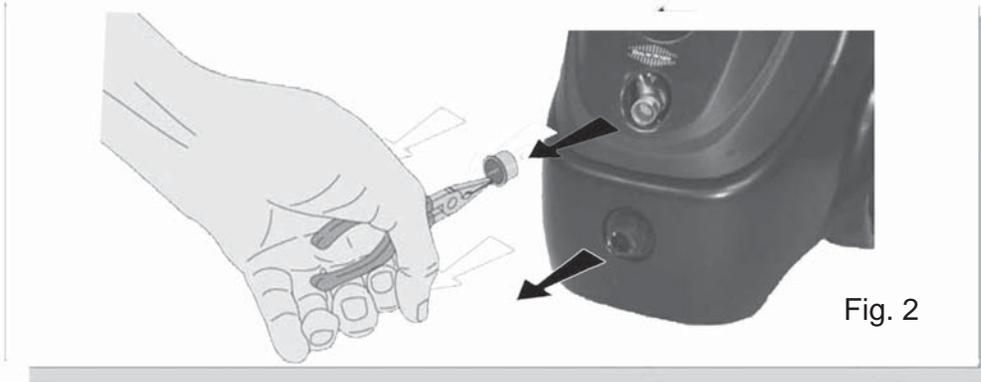

Fig. 1
1. Slide the storage hook onto the back of the machine as shown in Fig.1